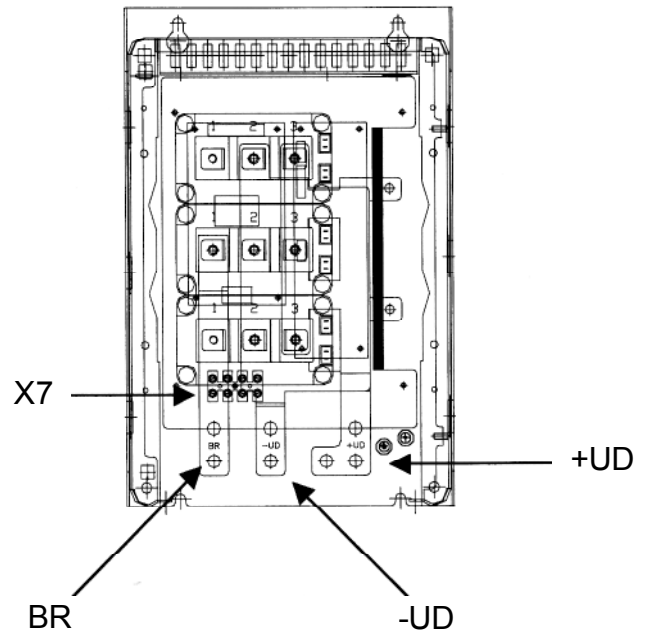

Figure 8.29 - Connection location
8.10.3.3 Installation/Connection Location of the power connections is shown in figures 8.29, 8.30 and 8.31.